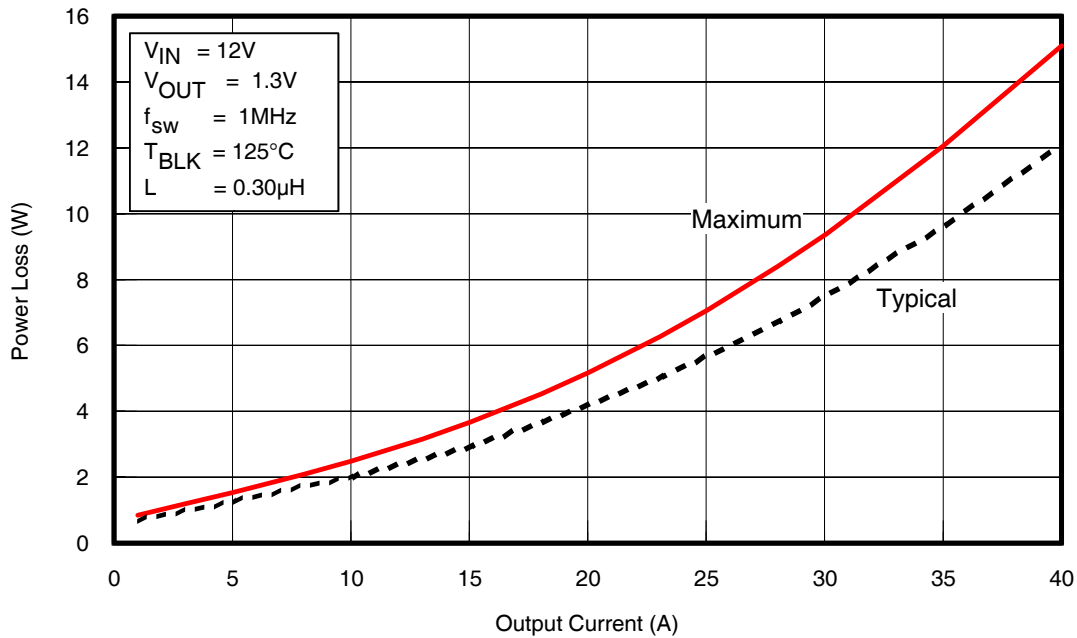

Fig. 1: Power Loss vs. Current
To calculate power loss for a given set of operating conditions, the following procedure should be followed: Determine the maximum current for each iP2003APbF and obtain the maximum power loss from Fig 1. Use the curves in Figs. 3, 4, 5 and 6 to obtain normalized power loss values that match the operating conditions in the application. The maximum power loss under the operating conditions is then the product of the power loss from Fig. 1 and the normalized values.
- (Fig. 1) Maximum power loss = 15W